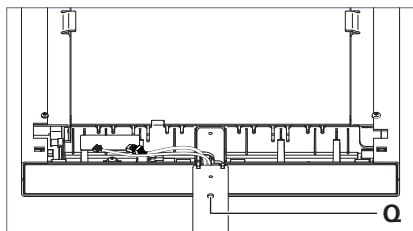

Fig. 8: Adjusting the inclination.
- Lift the luminaire head to align it vertically and tighten the adjusting screw **Q** against the support tube counterclockwise by hand, see Fig. 8.